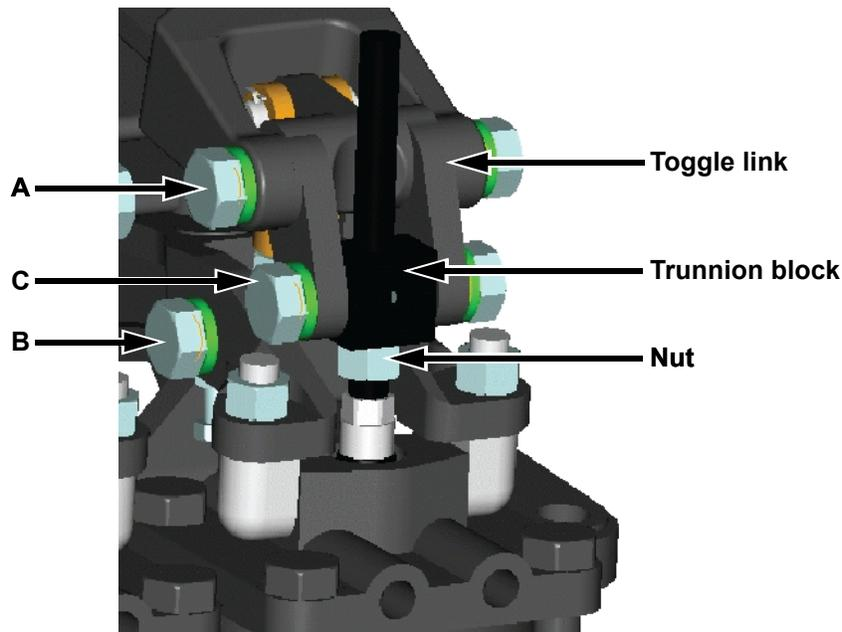

Figure 3: Toggle Link, Trunnion Block, and Nut
- c. Fix toggle link in place. Follow order A, B, C as indicated in Figure 3.
11. Tighten all bolts. Torque tension nuts to 200 ft-lb. See Figure 3.